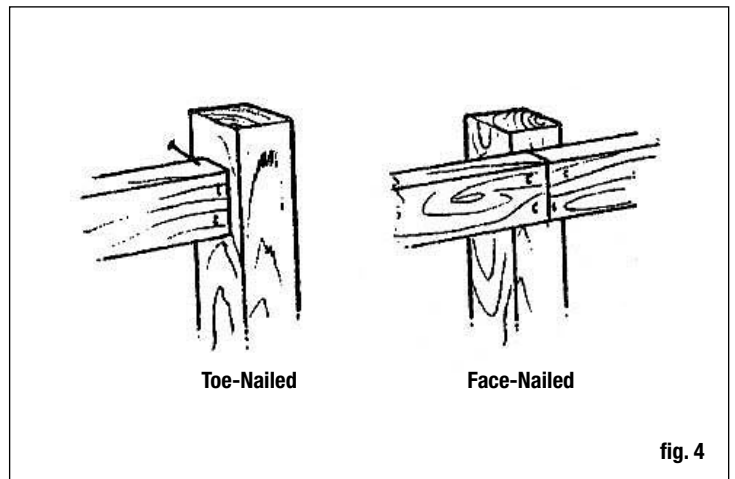
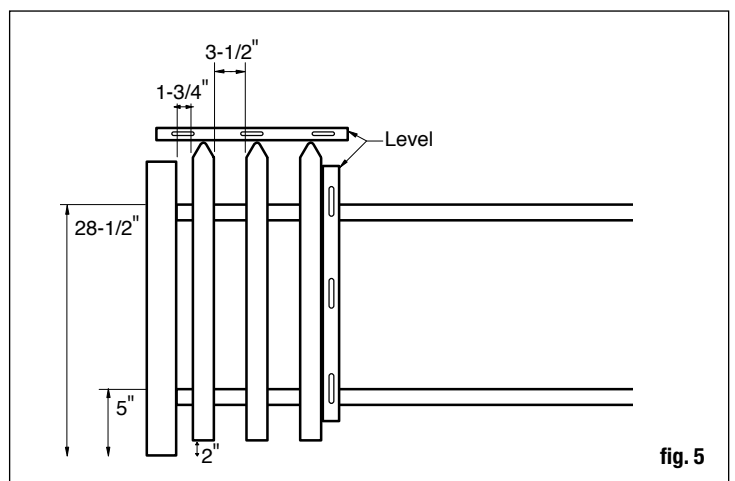

fig. 4
fig. 5
Step 1 Connecting backer rails to posts. There are a couple ways to attach the backer rails to posts (fig. 4). Face-nailed is the recommended method. Suggested positions for backer rails: Starting from the ground, measure 5" and 28-1/2" (fig. 5). Mark these points. Place the top of the rail at these marks. Your finished product will be much more appealing if proper attention is given to this detail.
Step 2 Panel construction. To install pickets to backer rails, use the provided fasteners. Position pickets a recommended 2" above the ground. Start at one end of the rail placing the first picket 1-3/4" from the end. Place the second picket 3-1/2" from the first picket (fig. 5). Continue adding pickets to the rails with 3-1/2" between each picket. Use a level to check for plumb every few pickets.